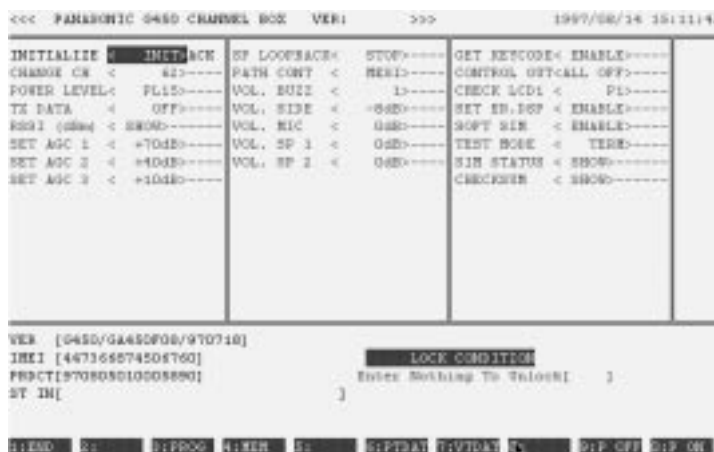

Figure 25: rogra lock code
- Figure 25 press ENTER to unlock the UUT The current lock code will be use